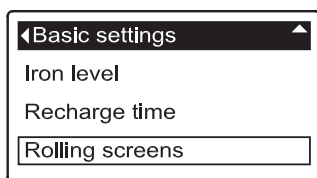

FIG. 105
3. Press the SELECT (O) button to display the Basic settings menu (See Figure 105).
7. To un-select a screen, make sure its name is highlighted in a box. Then press the SELECT (O) button. The black square will disappear. Pressing SELECT (O) again makes the black square reappear and re-selects the highlighted item. At least one screen must be selected/highlighted.
8. When selections are complete, exit this menu by pressing the LEFT (◀) button. The display will go back to the Basic settings menu (Figure 105).